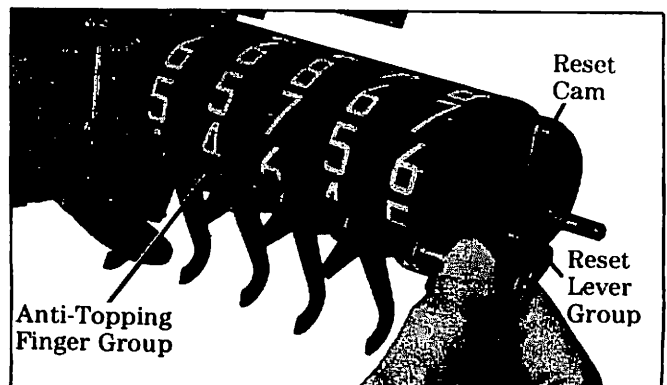

Figure 11. Anti-Topping Finger Group Removal.
- b. Disengage the anti-topping fingers and the clutch lever group from the wheels. See Figure 11.